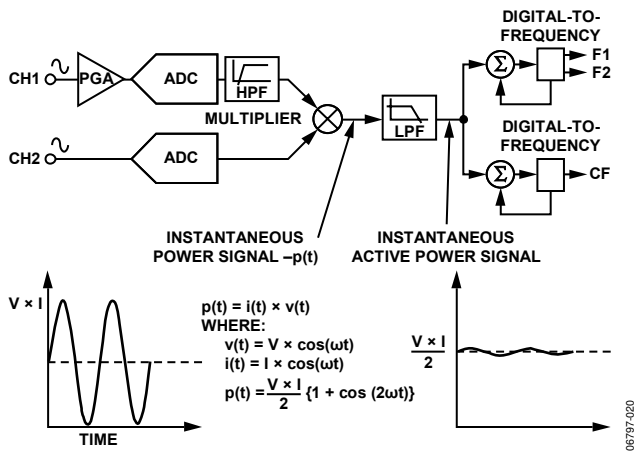

Figure 22. Signal Processing Block Diagram
The active power calculation is derived from the instantaneous power signal. The instantaneous power signal is generated by a direct multiplication of the current and voltage signals. To extract the active power component (dc component), the instantaneous power signal is low-pass filtered. Figure 22 illustrates the instantaneous active power signal and shows how the active power information can be extracted by low-pass filtering the instantaneous power signal. This scheme correctly calculates active power for nonsinusoidal current and voltage waveforms at all power factors. All signal processing is carried out in the digital domain for superior stability over temperature and time.
The pulse output calibration frequency (CF) is intended for use during calibration. The output pulse rate on CF can be up to 2048 times the pulse rate on F1 and F2. The lower the  $f_{1-4}$  frequency selected, the higher the CF scaling. Table 7 shows how the two frequencies are related, depending on the states of Logic Input S0, Logic Input S1, and Logic Input SCF. Because of its relatively high pulse rate, the frequency at this logic output is proportional to the instantaneous active power. As with  $F_1$  and  $F_2$ , the frequency is derived from the output of the low-pass filter after multiplication. However, because the output frequency is high, this active power information is accumulated over a much shorter time. Therefore, less averaging is carried out in the digital-to-frequency conversion. With much less averaging of the active power signal, the CF output is much more responsive to power fluctuations (see Figure 22).